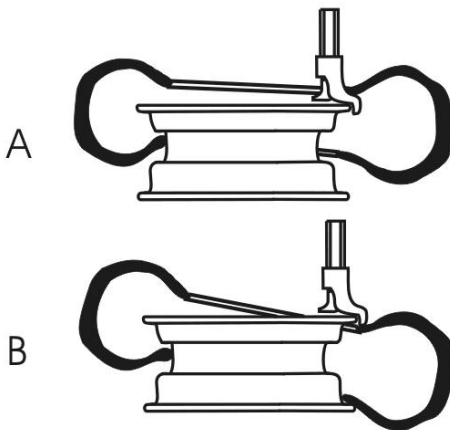
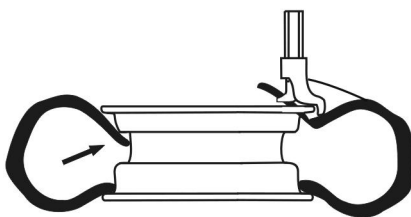

Fig.23
Fig.24
- Press down the central part of the tire. Depress the pedal L to turn the turntable clockwise, making the lower tire bead fall into the rim groove completely (as fig.23-A) .
- To install the upper tire bead, place the tire well and readjust position of the tire bead (same as mount of the lower tire bead in Fig 23-B, Press down the tire opposite to the mount/demount head to the rim groove (as fig.24) .